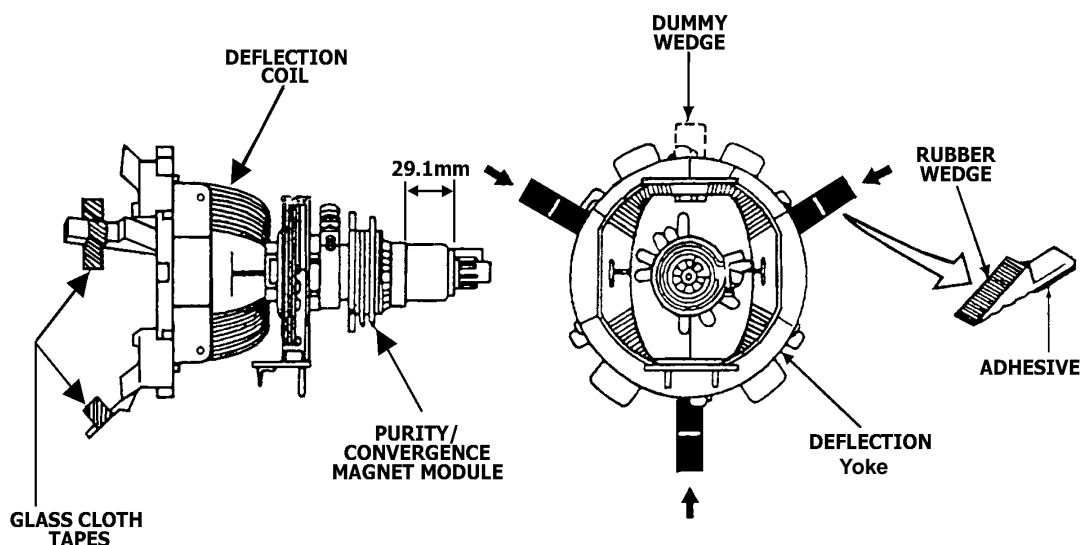

Fig. 18
The purity/convergence magnet assembly and rubber wedges need mechanical positioning. Refer to Fig. 18.
- 2) Temporarily put a wedge as shown in Fig.18. (Do not remove cover paper on adhesive part of the wedge.)
9) Stick three adhesive tapes on wedges as shown in Fig. 18.